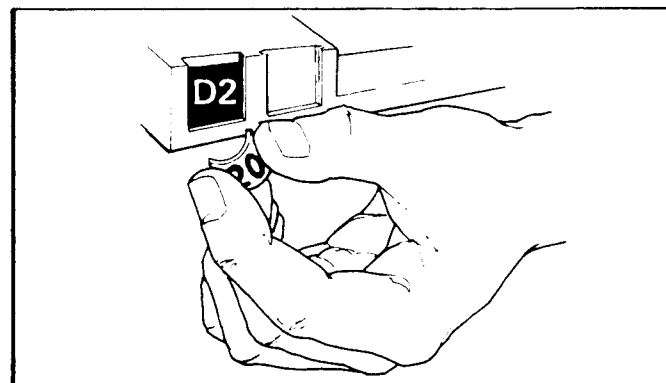

Figure 9. INSTALLING PRICE TABS.
13. INSTALL PROPER PRICE TABS into price tab holder for each selection in the main product area. (See Figure 9.)